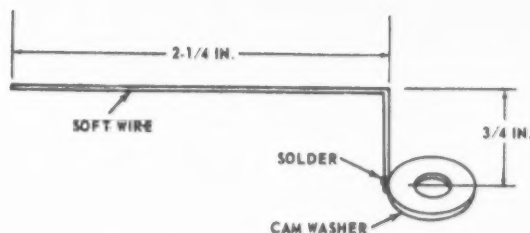

Figure 5-37. Timing pointer
- (c) Fabricate a pointer as shown in figure 5-37. Remove screw and flat washer from shaft of rotating magnet. Holding rotating magnet in neutral position, install pointer on shaft so it indexes with 0-degree mark. Secure pointer in this position with screw.
- (g) Use a timing pointer as shown in figure 5-37.